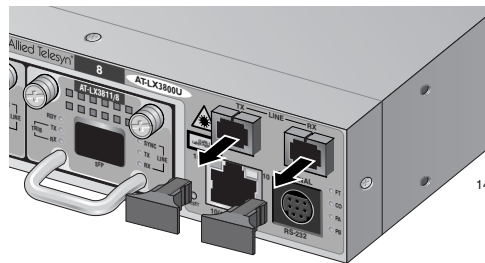

Figure 33. Removing the Dust Plugs from the TX and RX Ports
1. Remove the dust plugs from the TX and RX ports, as shown in Figure 33.